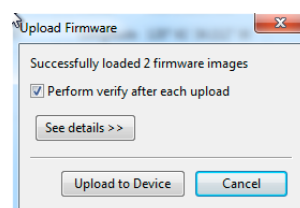

Figure 7.23: Uploading Firmware
2. Select the file and click **Open** and a smaller Upload Firmware window should appear (see Figure 7.23).